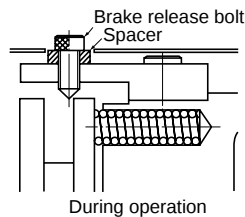

Fig.43
- (2) To return to the original state after releasing the bolts, re-install the spacer, which was removed in step (1), to the original position for safety. (See Fig.43.)